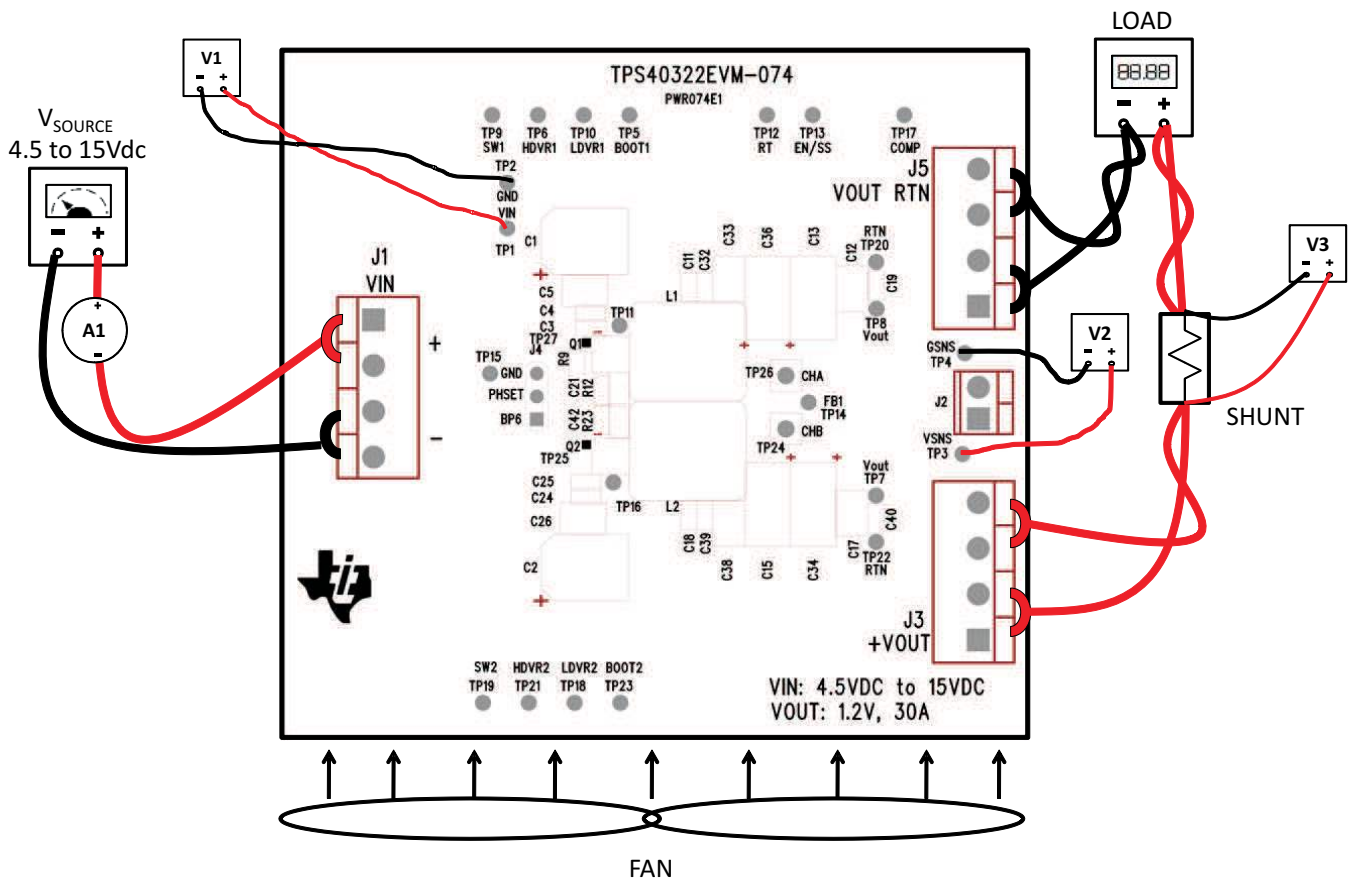

Figure 2. TPS40322EVM-074 Recommended Test Setup
**Voltage Source:** The input DC voltage source ( $V_{SOURCE}$ ) shall be a 0-V to 15-V variable DC source capable of 10 ADC at 4.5 VDC. Connect  $V_{SOURCE}$  to J1 as shown in Figure 2.
**Oscilloscope:** A digital or analog oscilloscope can be used to measure the ripple voltage on VOUT. The oscilloscope should be set for 1-M $\Omega$  impedance, 20-MHz bandwidth, AC coupled. Test points TP8 and TP20 or test points TP7 and TP22 can be used to measure the ripple on VOUT. Use the tip and barrel method shown in Figure 2 to avoid inducing additional noise due to the large ground loop area that would result from using the probes ground lead.
Shown in Figure 2 is the basic test set up recommended to evaluate the TPS40322EVM-074.
- **Input connections:** Prior to connecting the DC input source,  $V_{SOURCE}$ , it is advisable to limit the source current from  $V_{SOURCE}$  to 10 A maximum. Make sure  $V_{SOURCE}$  is initially set to 0 V and connected as shown in Figure 2.
- **Output connections:** Connect Load to J3 and J5, as shown in Figure 2. Set LOAD to constant current mode to sink 0 A before  $V_{SOURCE}$  is applied. Connect voltmeter V2 across TP3 and TP4 as shown in Figure 2.
- **Other connections:** Place Fan as shown in Figure 2 and turn on, making sure air is flowing across the EVM at all times.